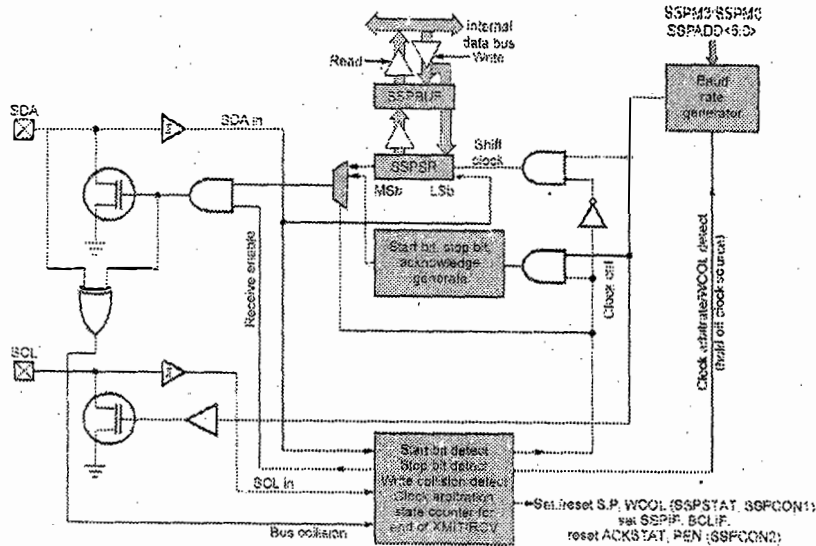

Fig. Q.10.1 MSSP I2C master mode
- Fig. Q.10.1 Shows the MSSP I2C master mode configuration. (Refer Fig. Q.10.1 on next page)